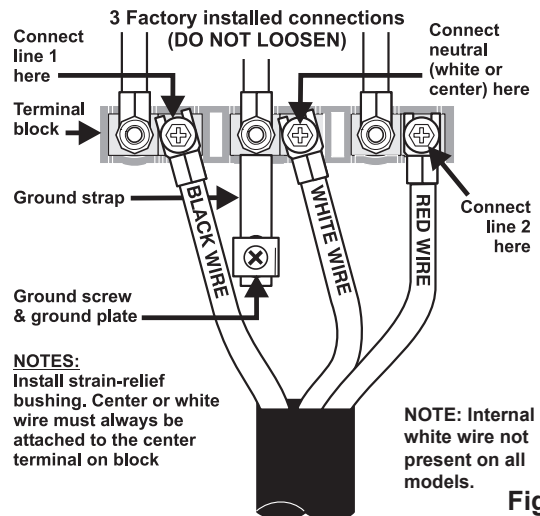

Fig. 13
## 5B. POWER CORD CONNECTIONS (3-Wire Connection Instructions For existing installations ONLY - Refer to Fig. 13).
2. Insert the end connectors for Line 1, Line 2 and Neutral and tighten securely to the terminal block (See Fig. 13). **IMPORTANT NOTE: DO NOT LOOSEN** the factory installed nut connections which secure the range wiring to the terminal block. Electrical failure or loss of electrical connection may occur if these 3 nuts are loosened or removed.
A ground strap is installed on this range which connects the center terminal of the terminal block (Neutral) to the range chassis. The ground strap is connected to the range by the center, lowest screw (See Fig. 13). The ground strap must not be removed unless National, State or Local Codes do not permit use of a ground strap.